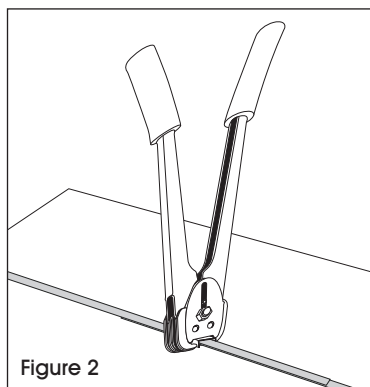

Figure 2
2. Press the handles of the sealer together while keeping the sealer in a vertical position. The seal will be completely sealed when the handles are vertical and can be squeezed no further. (See Figure 2)